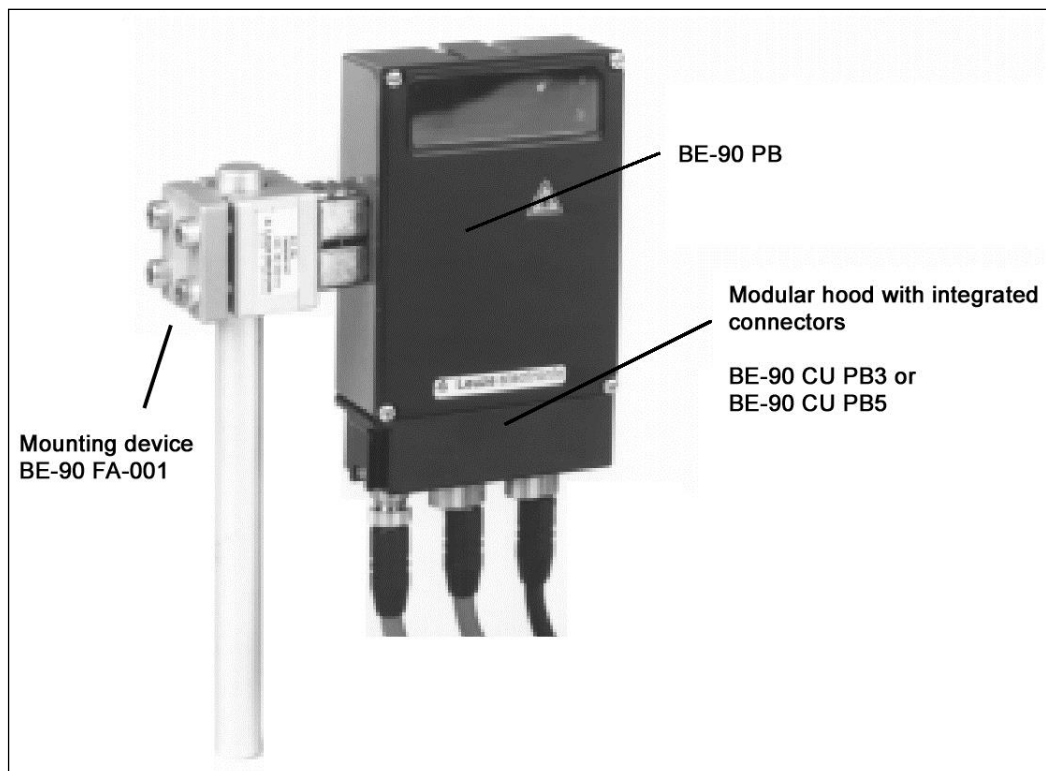

Figure 7-1: Mounting Example BE-90 PB
- using the dovetail groove and the corresponding mounting accessories (see Figure 7-1)